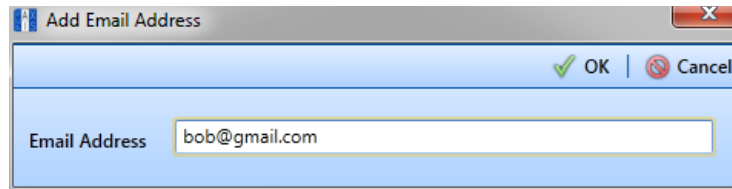

Figure 12-5. Add Email Address
- 3 Click **+** **Add Email** to open the *Add Email Address* dialog box. Type the user's email address in the **Email Address** field and then click **✓ OK**. Repeat this step as needed to add another email address (Figure 12-5).